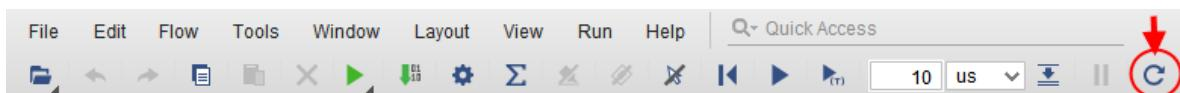

Figure 4-18: relaunch sim option
- Use the Relaunch **C** button on the Vivado IDE toolbar to re-compile and re-launch the simulation as shown in Figure 4-18. You may alternatively use the `relaunch_sim` Tcl command to re-compile and re-launch the simulation.